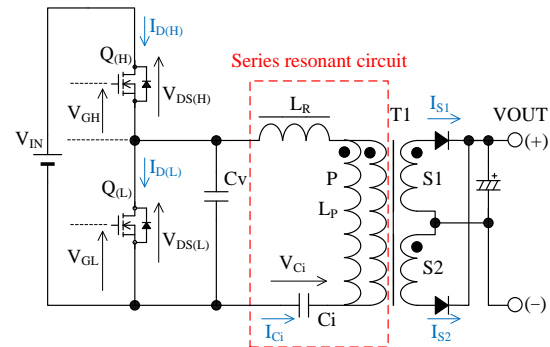
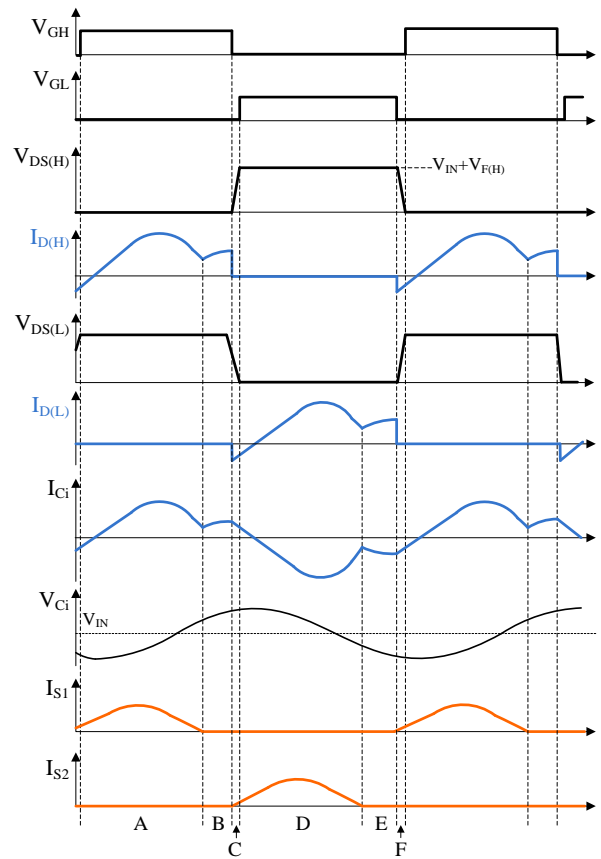

Figure 8-3. Current Resonant Power Supply Circuit
Figure 8-4. The Basic Operation Waveforms of Current Resonant Power Supply
Figure 8-3 shows the circuit of a current resonant power supply. The basic configuration of the current resonant power supply is a half-bridge converter. The switching device Q_(H) and Q_(L) are connected in series with V_{IN}. The series resonant circuit and the voltage resonant capacitor C_v are connected in parallel with Q_(L). The series resonant circuit is comprised of a resonant inductor L_R, a primary winding P of a transformer T1 and a current resonant capacitor C_i.
In the resonant transformer T1, the coupling between primary winding and secondary winding is designed to be poor so that the leakage inductance increases. By using it as L_R, the series resonant circuit can be down sized. The dotted mark in T1 shows the winding polarity, the secondary windings S1 and S2 are connected so that the polarities are set to the same position shown in Figure 8-3, and the winding numbers of each other are equal.
Figure 8-4 shows the basic operation waveform of current resonant power supply (see Figure 8-3 about the symbol in Figure 8-4). The current resonant waveforms in normal operation are divided a period A to a period F. The current resonant power supply operates in the each period as follows.